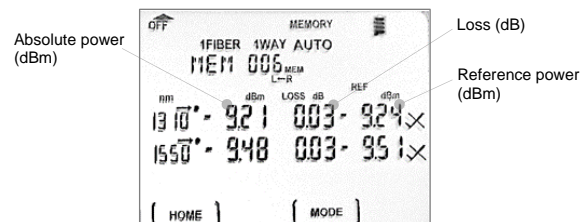

Figure 6. LCD display of One-Way Autotest
- [For data saved in 1-way Autotest mode only]: As default, absolute power will be displayed in dBm along with loss (dB) and reference power (dBm), see Figure 6 at the end of this section for an LCD display sample. To change to display absolute power in watt also, press **F3**. Press **F3** again will return to default display.